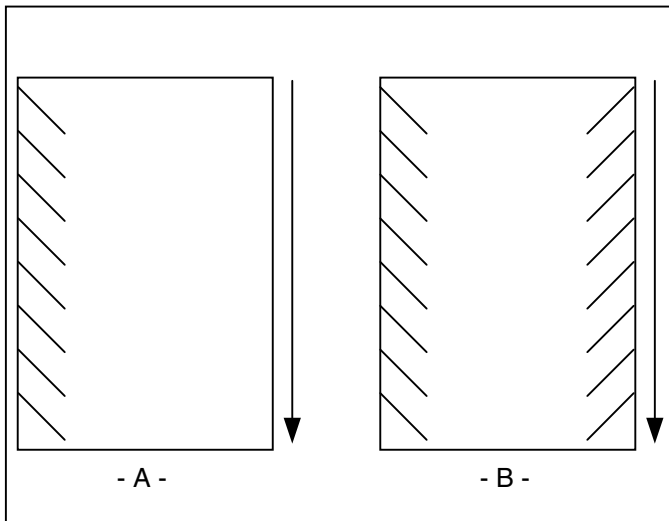

Fig. 48
5. Angled waves in the output (Figure 48 A & B).